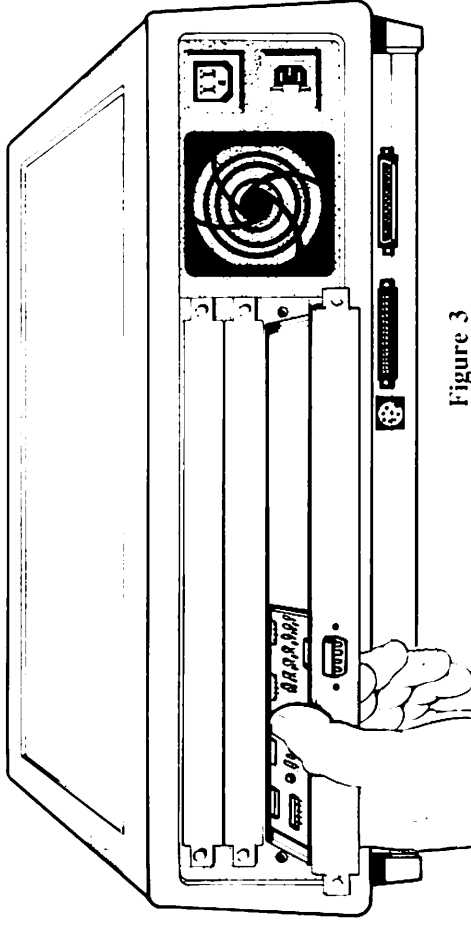

Figure 3
5. Unlock the buttons on the Mouse/Clock Board's panel. (Note: To avoid contaminating the board with oil from your hands, handle the pan containing the board, **not** the board itself.) Slowly slide the pan between the guides along the sides of the card slot until the board meets the connector. (See Figure 3.)